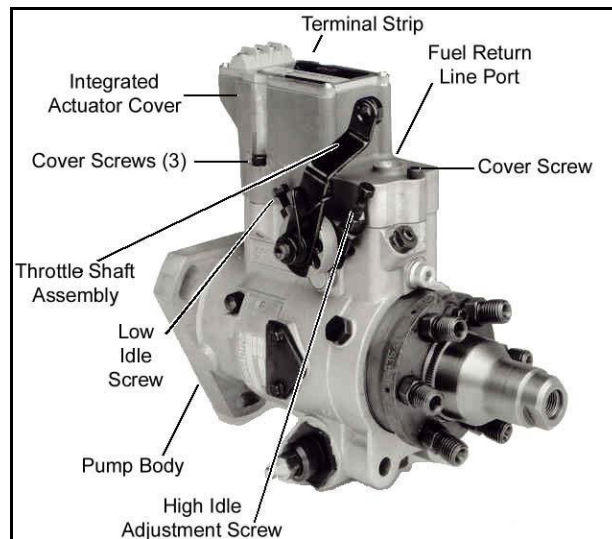

Figure 6
1. Position the shut-off shaft assembly (if equipped with one) in the “Fuel On” position by rotating it in the direction shown in Figure 6 until it reaches its limit of travel. Secure the shut-off shaft assembly in place with existing mechanical linkage. A spring may be used to hold it in place when there is no linkage.
2. Throttle shaft assemblies are often locked in the “High Idle” position on pumps equipped with speed droop governors. When this is the case, the low idle screw may be backed out a **maximum** of three (3) turns. This should only be done if the high idle speed is known to be greater than 12% above the rated speed. Excessive backing out of the low idle screw may result in the disengagement of the pump’s internal components.
3. Adjust the droop by turning the droop adjusting screw in a counter-clockwise (CCW) direction until it stops. See Figure 6. Some pumps may not be equipped with a speed droop adjustment.
6. Keep increasing the speed until it is approximately 20 RPM higher than the speed calculated in Step 2 of the control box installation procedure. If this speed cannot be obtained, loosen the jam nut on the high idle speed adjustment screw of the throttle lever and turn the high idle adjustment screw counterclockwise (CCW) until the calculated speed can be obtained. See Figure 6.
7. Set the speed with the electronic governor to the value calculated in Step 2 of the control box installation procedure. Then *slowly* turn the high idle adjustment screw on the throttle lever clockwise (CW) until the speed just starts to decrease. Turn the high idle adjustment screw counterclockwise (CCW) until the speed just controls at the proper calculated speed. Tighten the high idle adjusting screw locknut to 35-45 lbs/in.
8. Turn the low idle screw clockwise (CW) to lock the throttle lever at this maximum position. Tighten the low idle adjustment screw locknut to 35-45 lbs/in.